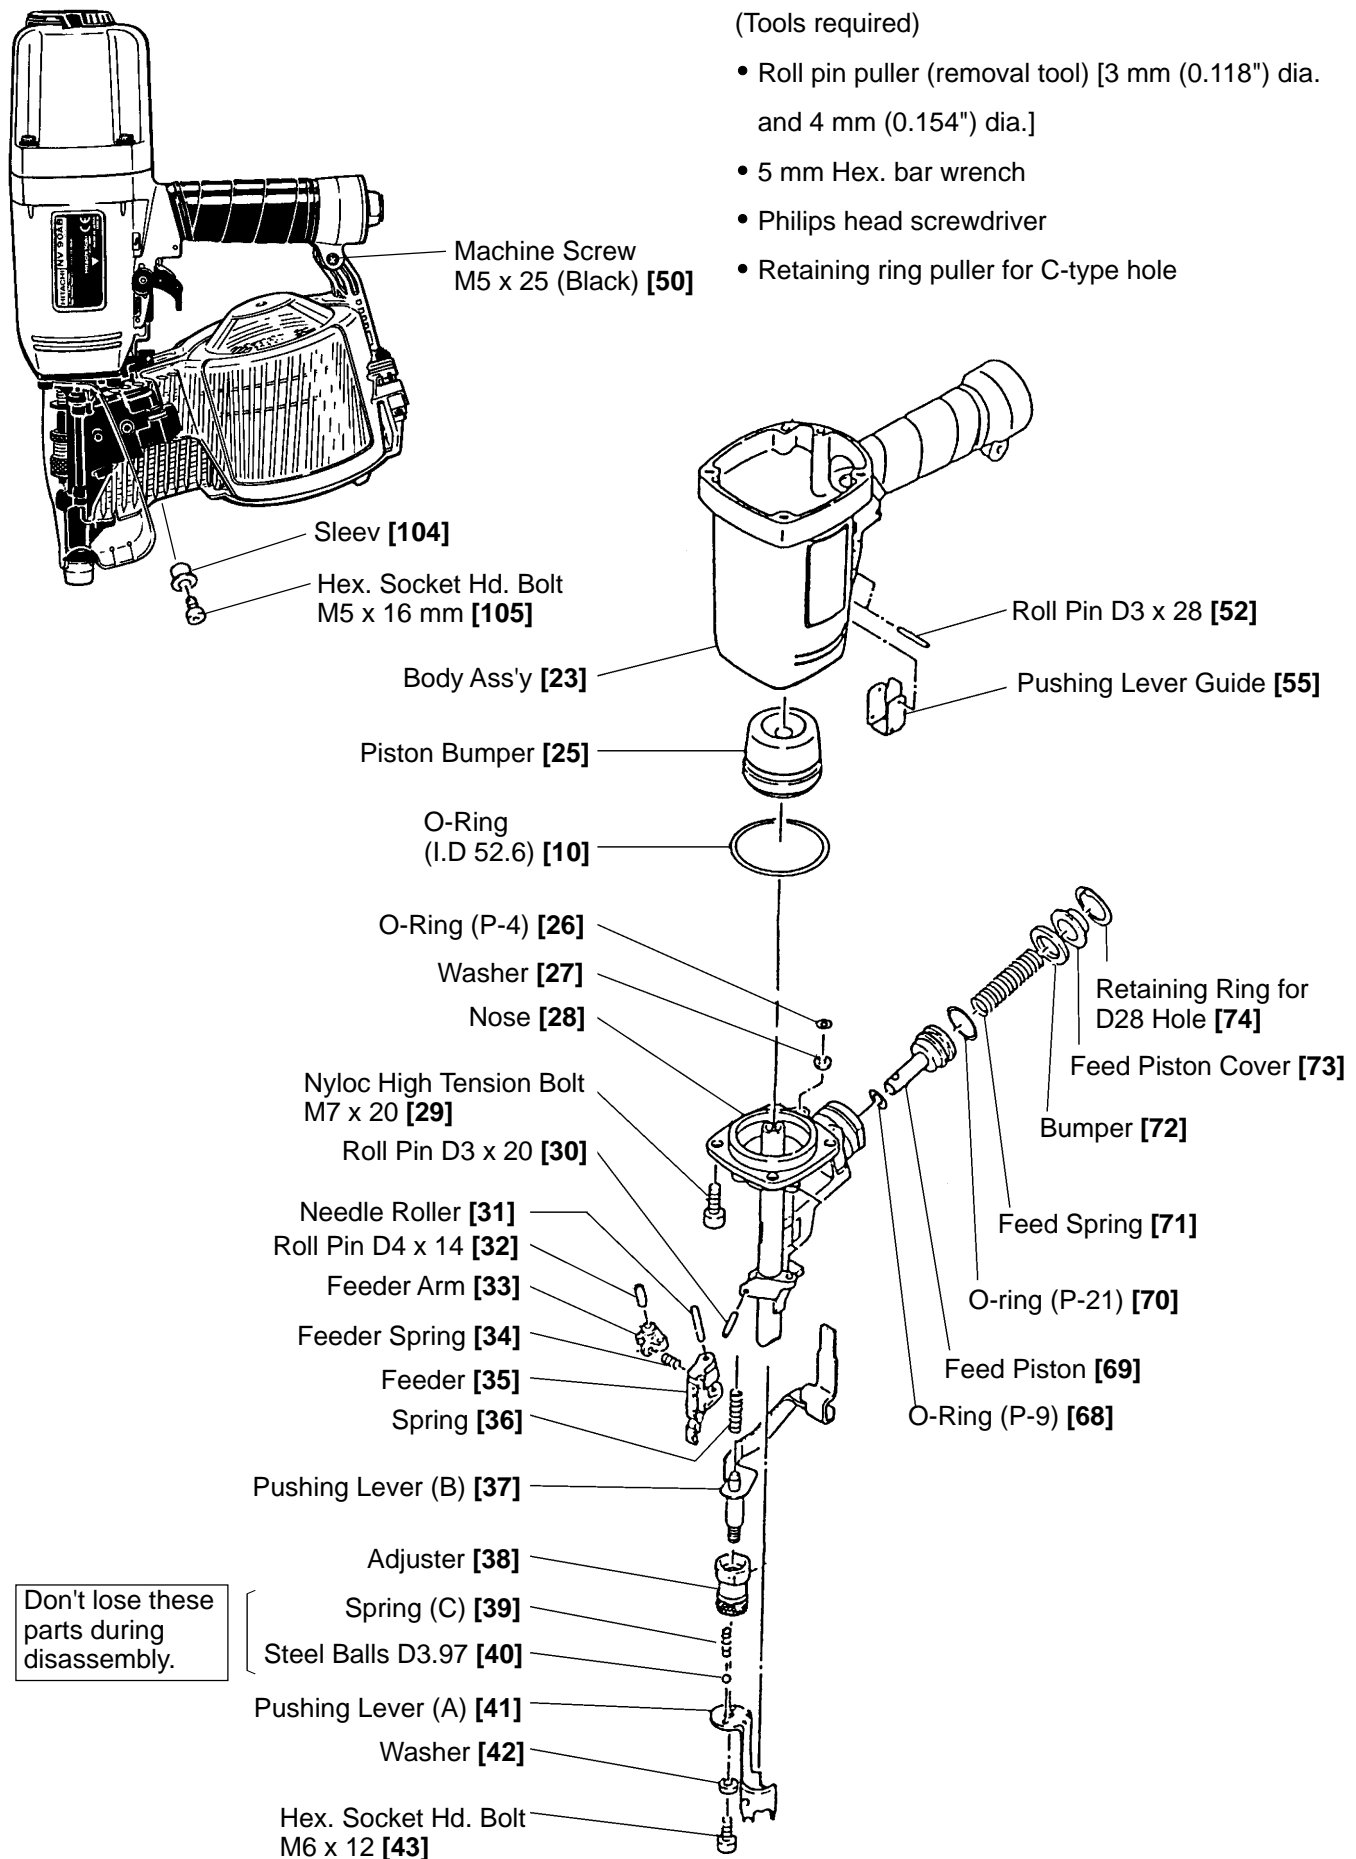

Fig. 11 Disassembly and reassembly of the driving section
(1) Disassembly and reassembly of Pushing Levers (A) **[41]** and (B) **[37]**, the Spring **[36]**, etc. (See Fig. 11)
- Install Spring (C) **[39]** after applying grease to it.
(2) Disassembly and reassembly of the Feeder **[35]**, the Feed Piston **[69]**, the Nose **[28]**, etc. (See Fig. 11)